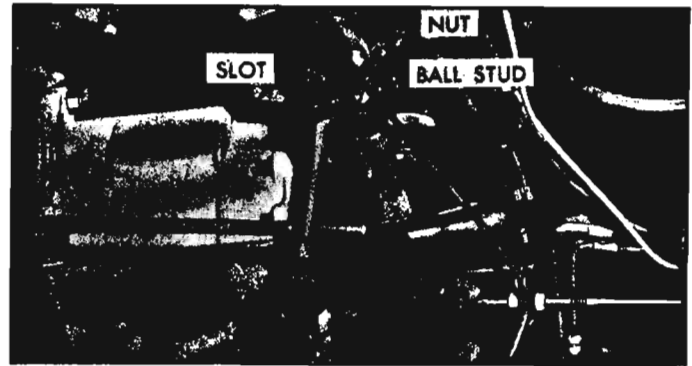

Fig. 6A-29—Lowering Front Engine Mount
6. Loosen outboard stud nut (fig. 6A-29) and slide, part way, out of the engine front mounting bracket slot. Remove shift rod coupling as shown in Figure 6A-18.